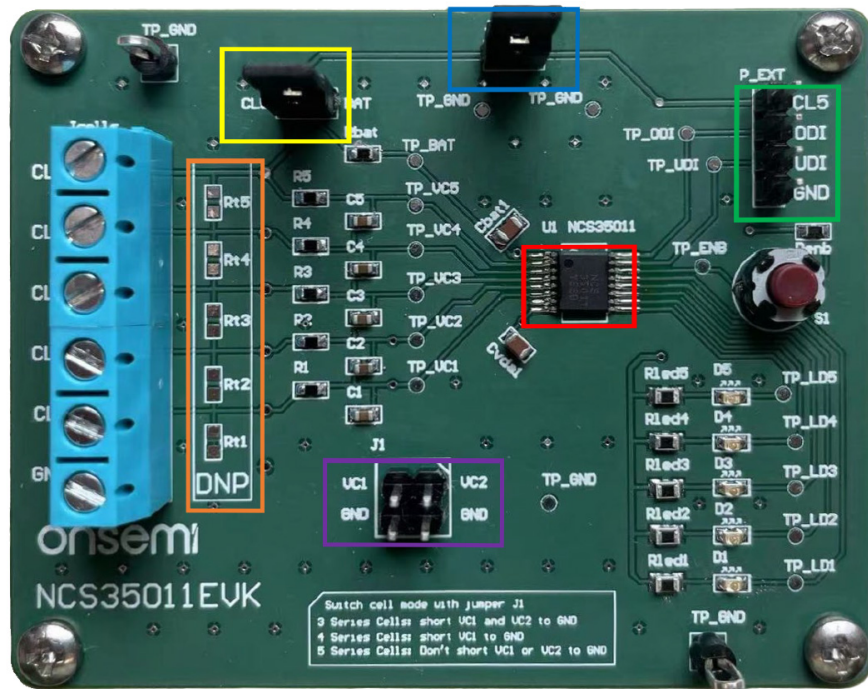

Figure 1. NCS35011 Evaluation Board
Identify the NCS35011 configurations. Depending on the IC trim, a different **J1** (see **Purple** boxed area in Figure 1) configuration may be required to short the corresponding VC pins to GND to create the 3, 4, or 5 series cells test mode.
Identify the NCS35011 ODI and UDI pin configurations. If IC is configured as Open-drain, external pull-up resistors are needed to connect between CL5 and ODI/UDI (see **Green** boxed area in Figure 1). It is recommended to limit the UDI and ODI current less than 5 mA.
multiplier DC power supplies or SMD 0603 resistors Rt1 – Rt5 (see **Orange** boxed area in Figure 1) to create the voltage divided cell voltages.
**JBAT** jumper (see **Yellow** boxed area in Figure 1) allow user to measure the quiescent current into the IC BAT pin; **J0** jumper (**Blue** boxed area) allow user to measurement current through all the LEDs.